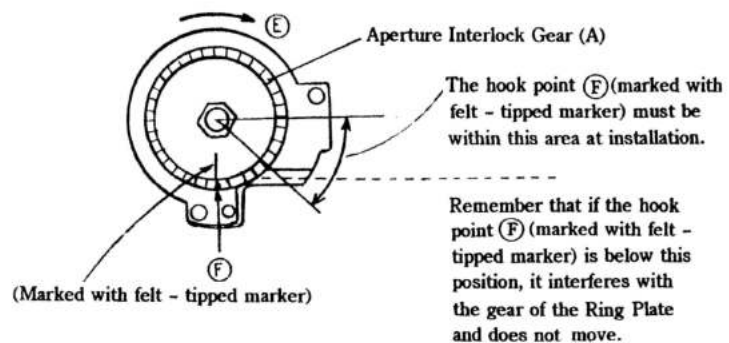

Fig. 36
- 4) Turn the hook point (F) (marked with a felt - tipped marker) of the spiral spring on the Aperture Interlock Gear (A) of the Aperture Code Ass'y (1AMG0600) by about 300 degrees in the direction of the arrow (E). With the hook point in this position, install the Aperture Code Ass'y in the Mirror Box and tighten the Aperture Code Ass'y Setscrews (61913026) $\times$ 2. (See Fig. 36)